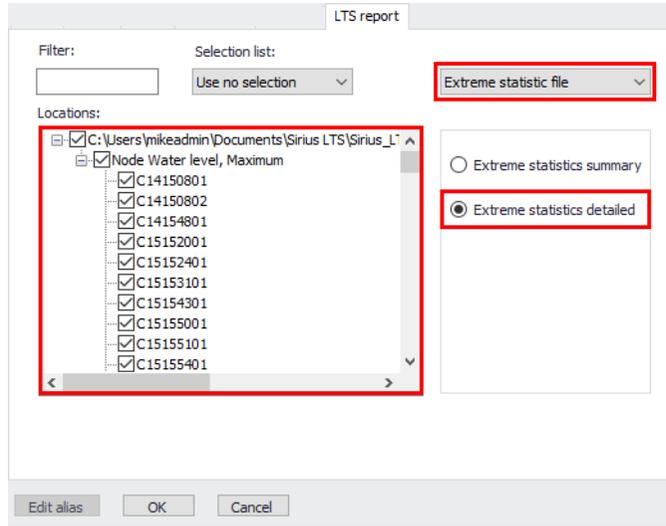

Figure 19.65 Detailed LTS extreme event statistics report configuration
- Access the ‘LTS Report’ tab on the ‘Result Items’ dialog (Figure 19.65).
- Choose to generate a report with the ‘Extreme statistics file’ from the dropdown menu on the upper right side of the page (Figure 19.65).